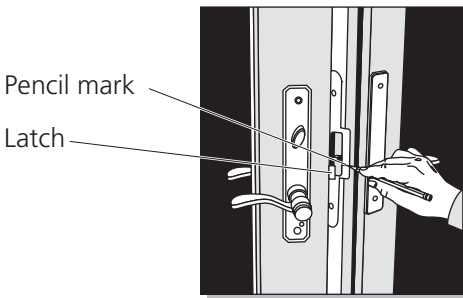

Figure 5 - Interior view
1. After all hinge adjustments have been made, make a pencil mark where the top of the latch strikes the latch receiver (Fig. 5).